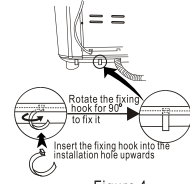

Figure 4
- Install the two drain hose fixing hooks taken out into the installation hole at the other side of the base frame (to aim at the installation hole accurately you can lean the washing machine forward slightly). Then rotate for 90° (As per Figure 4).